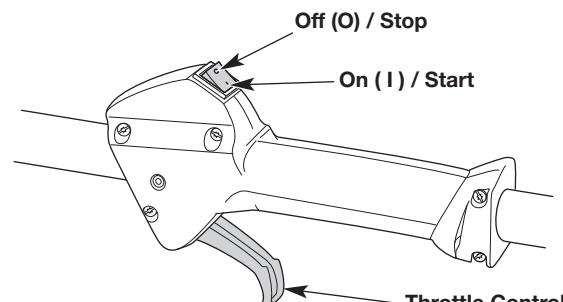

Fig. 5
- NOTE:** There is no need to turn the unit on. The On/Off switch is in the ON (1) position at all times (Fig. 5).
6. Squeeze the throttle control (Fig. 5) and pull the starter rope with a controlled and steady motion **5 times** (Fig. 7).
2. Press and hold the On/Off switch in the OFF (O) position until the engine comes to a complete stop (Fig. 5).